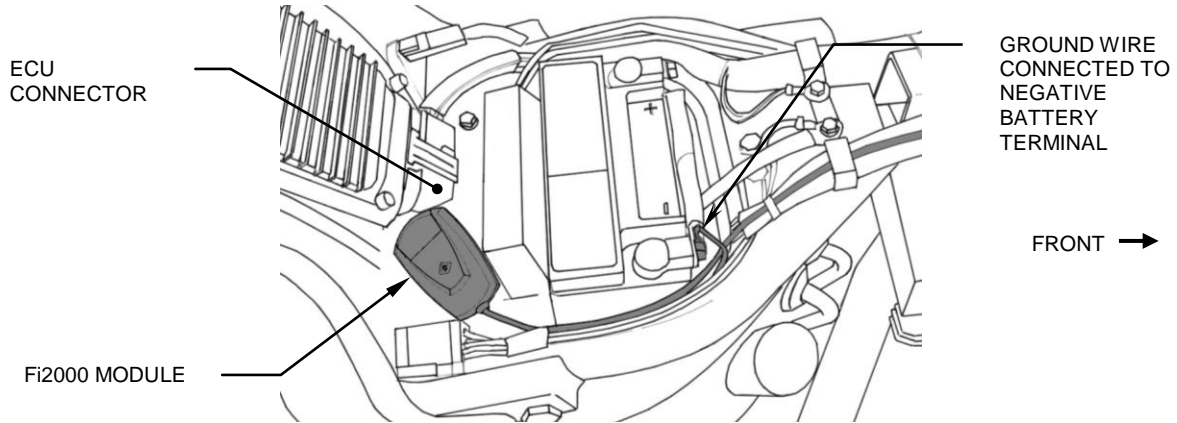

FIGURE 1
3. Lay the Fi2000R module in the area underneath the seat, do not attach it to the motorcycle, route the wire harness forward up the right side of the frame backbone for the Softtail, see Figure 1. Route the forward set of connectors under the upper motor mount.
6. Attach the black wire to the negative post of the battery on Softail models, see Figure 1.
7. Before re-installing the gas tank, seat and air cleaner assembly, verify your connections. Remove the door from the Fi2000 box to expose the LED's. Verify the wire connections by (1) turning the ignition on, prior to starting, and see if all three LED's are on steady. If you have no light, your ground connection (BLACK wire) has not made proper contact or your front injector connection is not complete. (2) After achieving a steady light from all three LED's, start the motorcycle, wait 15 seconds and let it idle, the green light should now be the only LED on. If all three LED's are still on after start up, verify you have attached the injector connectors correctly. Reattach the door when finished. **Note:** Make sure the ignition is turned off before changing any connection.
8. Remove the backing from the Velcro and attach the Fi2000R as shown for Softails in Figure 1.